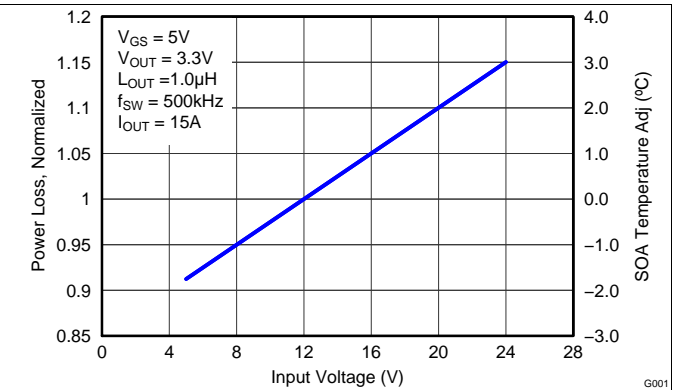

Figure 7. Normalized Power Loss vs Input Voltage
- Normalized Power Loss for input voltage \approx 1.10 (Figure 7)
- SOA adjustment for input voltage \approx 2.0°C (Figure 7)